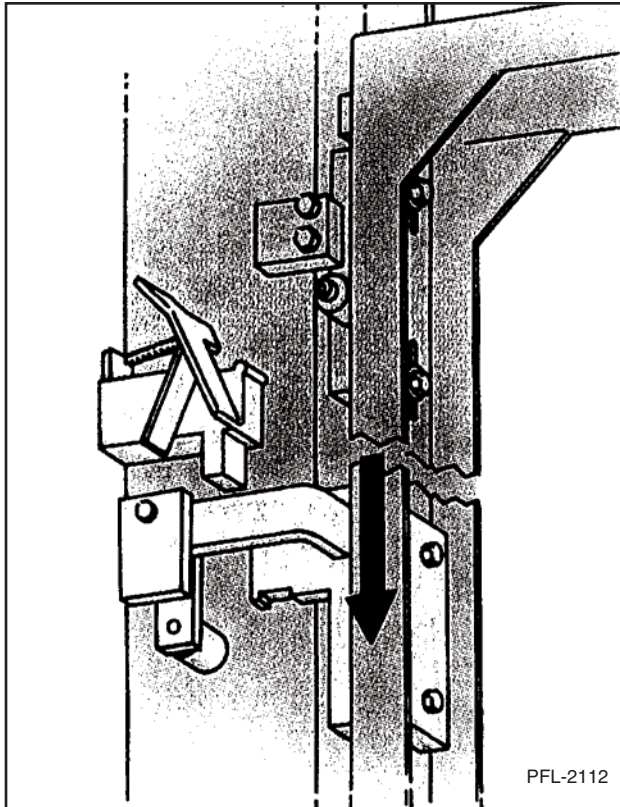

Figure 13
7. After loading/unloading operations are completed, carriage must be raised slightly to disengage decklocks. If lift has not been overloaded, decklock system is disengaged and carriage is lowered to designated level. See Figure 13.